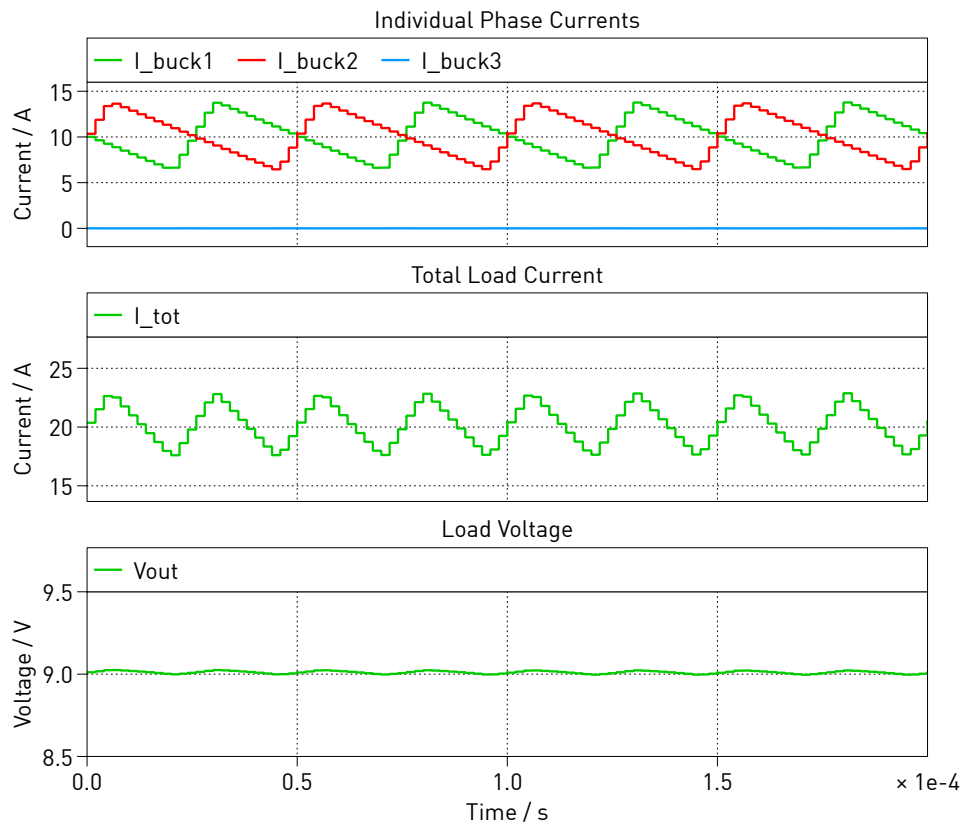

Fig. 5: Simulation result with two active phases
- Next under External Mode, one can change the Constant block controlling the load step inside the Controller Box from the default $[1 \ 1]$ to $[1 \ 0]$. This increases the load resistance, therefore decreases the load current. The real-time simulation waveforms should look like in Fig. 5 on p. 6. In